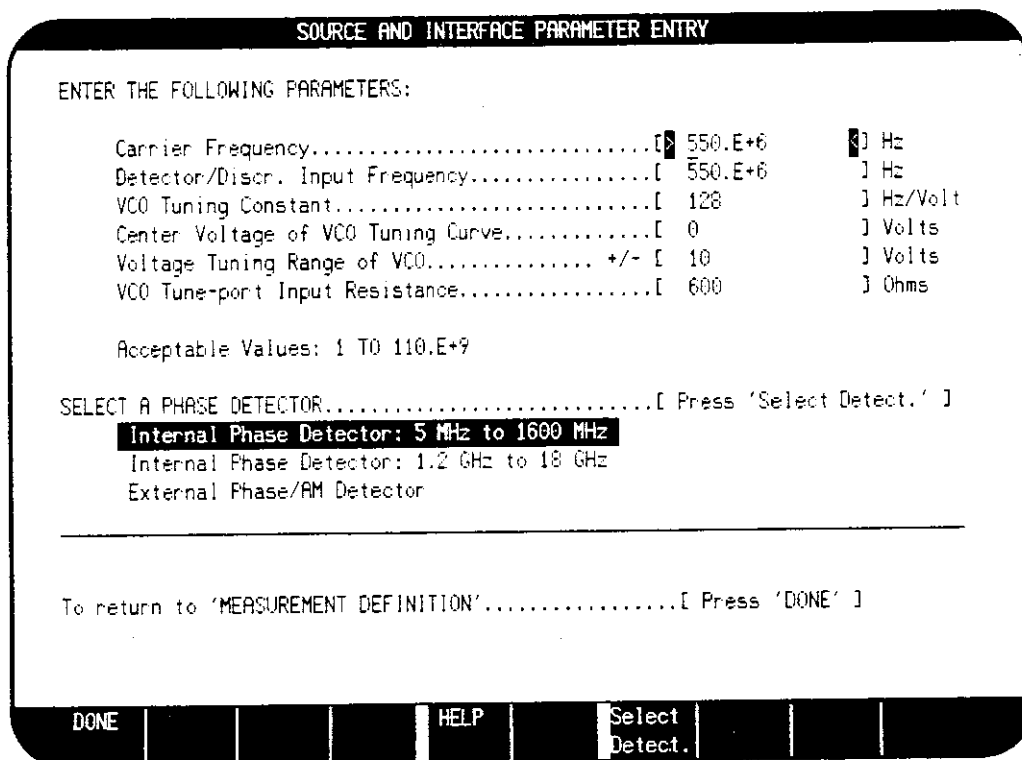

Figure 8-9. Source and Interface Parameter Entry Menu
- 7. On the HP 3048A press the **Instr. Params** softkey to obtain the Source and Interface Parameter Entry menu. Set the parameters and phase detector as shown in figure 8-9. When done, press the **DONE** softkey.